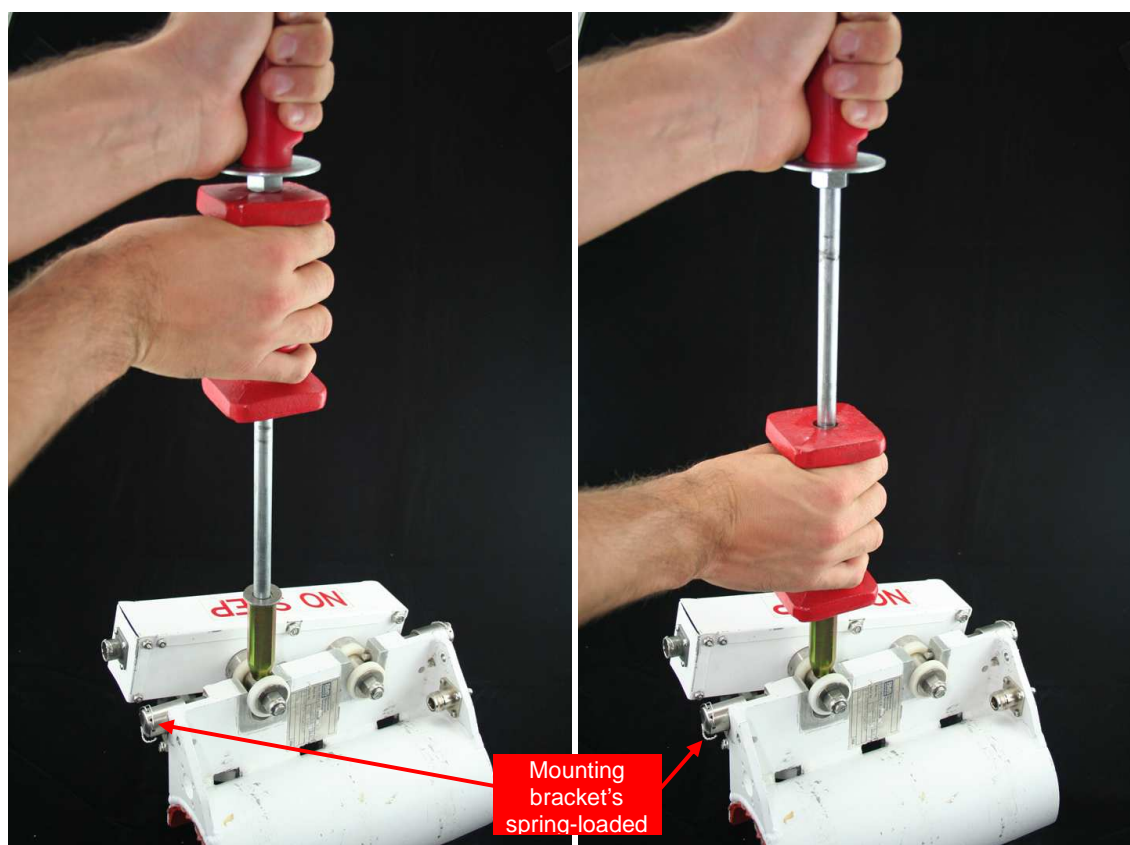

Figure 23. Using the actuator installation tool
5. Insert the square end of the TAA-101 installation tool (P/N 800169391) on the first actuator mounting pin, as shown in Figure 23. Note that the tool is positioned between each washer.